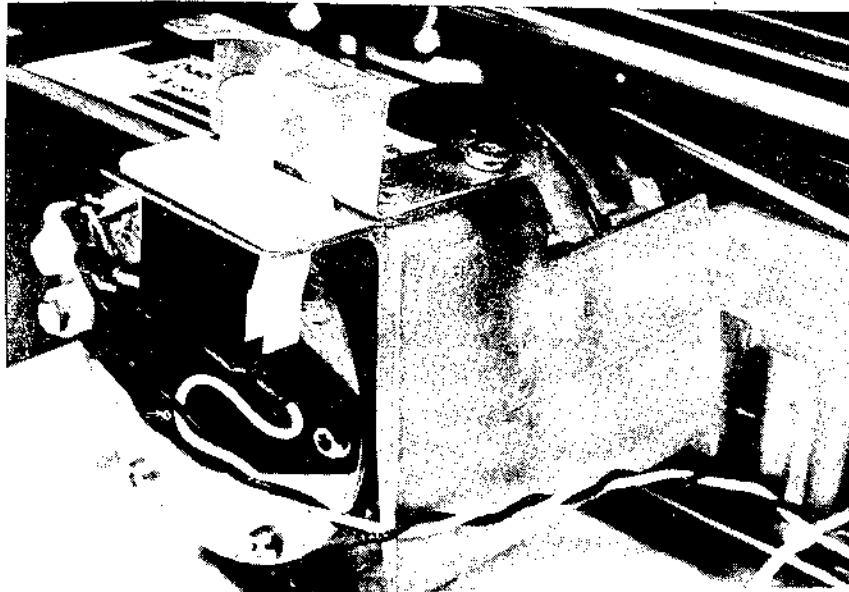

Figure 5-50 FRONT COVER OPEN SWITCH INSTALLATION
1. Study Figure 5-50. Install the switch in the switch plate, and attach the wire harness - black wire to the common terminal, white wire to the NO terminal.